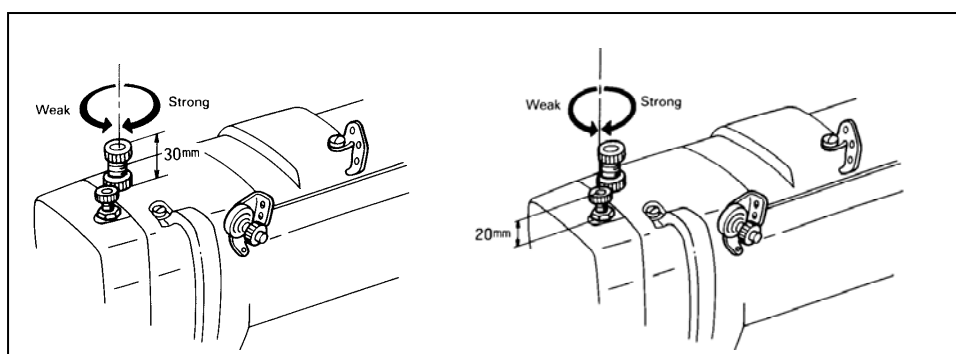

Fig.20
23、 Adjustment of presser pressure (Fig.20):